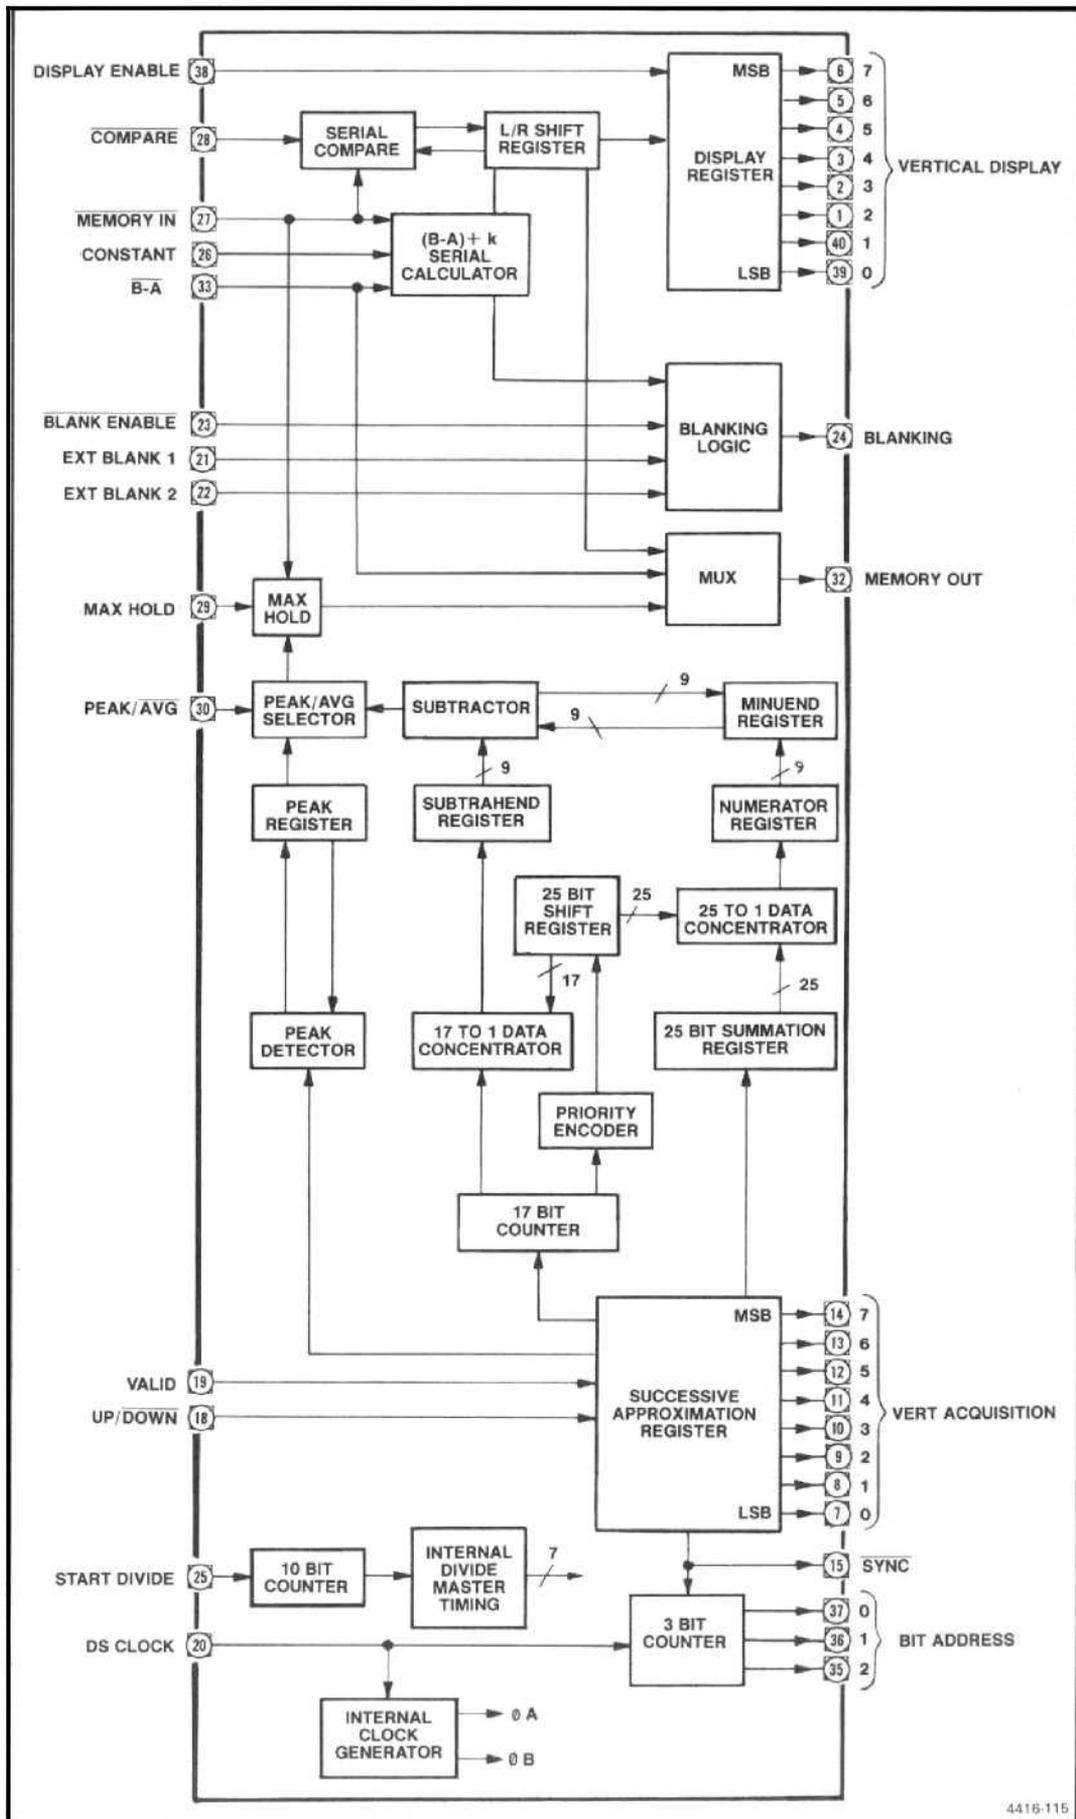

Figure 7-15. Vertical control IC, U1023, block diagram.
Vertical Control IC block diagram is shown in Figure 7-15. The vertical analog voltage is converted to a Y binary value by an 8-bit successive approximation register. Nine clock cycles are required for each Y conversion. After the conversion has taken place, the successive approximation register produces the negative-going SYNC signal. Most functions on both the vertical and horizontal control ICs are synchronized by this signal. On the negative-going transition of SYNC, the successive approximation register is reset to 10 00 00 00 (binary) and the next conversion cycle begins. Incoming data bits are latched into the register on the negative-going clock transition. From the register, the output data is applied to the peak and the averaging circuits.
A division cycle is initiated when horizontal control IC U2035, detects a change in the X value. At that time it generates the ST DIV (start divide) signal. Upon receipt of this signal, and in synchronization with the SYNC signal, vertical control IC U1023 performs five functions (refer to Figure 7-15).
1. U1023 latches the current numerator in a 25-bit latch (25-to-1 data concentrator in Figure 7-15) and latches the denominator in a 17-bit latch (17-to-1 data concentrator).
2. U1023 clears the numerator adder circuits (25-bit summation register in Figure 7-15).
4. U1023 loads the latched numerator and denominator serially into the divide circuit (subtractor in Figure 7-15) using the contents of the 25-bit shift register as a mask.
All data enters and leaves the memory serially. Data read from memory enters an 8-bit shift register and, timed by the SYNC signal, is transferred to the vertical display output latch (display register on Figure 7-15). The same shift register is used for other purposes, so the DSPL EN (display enable) signal prevents non-display information from being